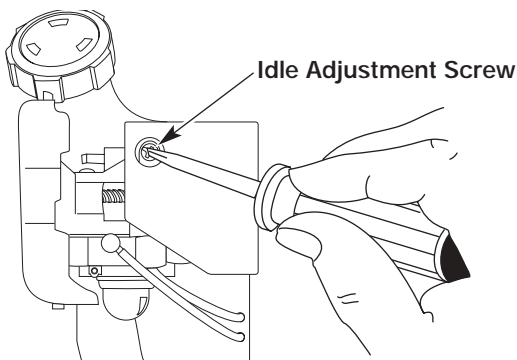

Fig. 66
The idle speed of the engine is adjustable. An idle adjustment screw is reached through a hole in the top of the engine cover (Fig. 66).
2. Release the throttle trigger and let the engine idle. If the engine stops, insert a small phillips into the hole in the air filter/muffler cover (Fig. 66). Turn the idle speed screw in, **clockwise**, 1/8 of a turn at a time (as needed) until the engine idles smoothly.